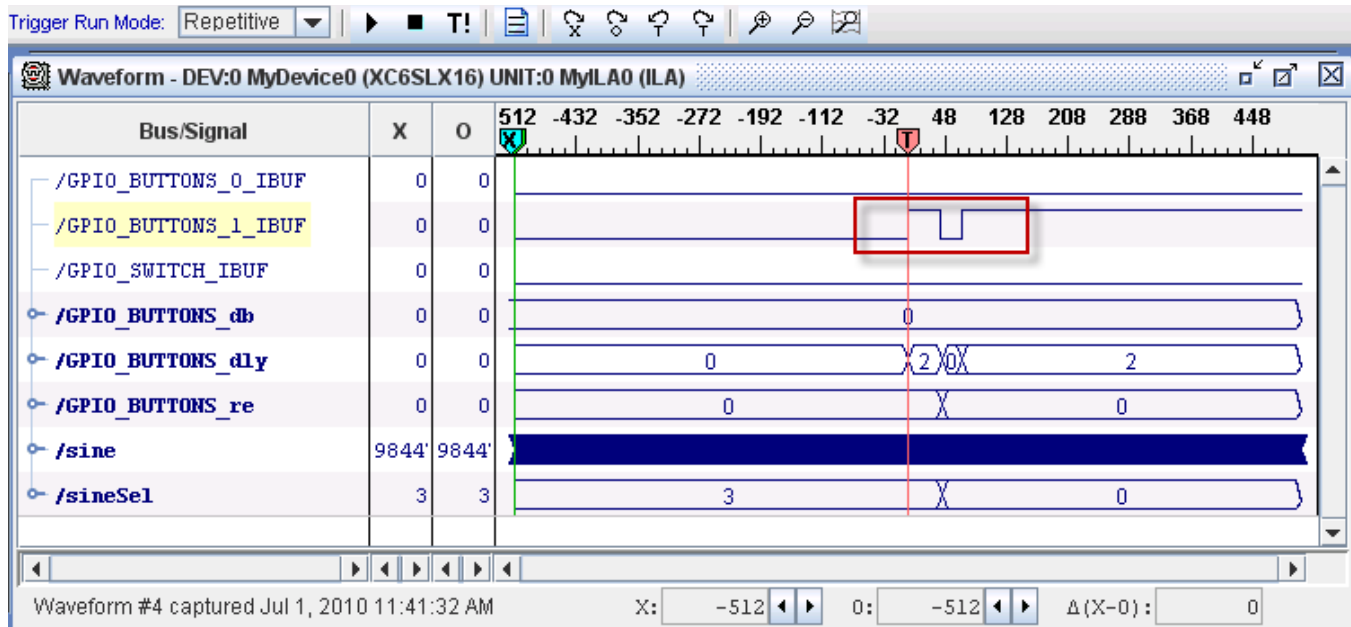

Figure 10: GPIO Buttons_1_re Signal Glitch
7. On the board, press the *Sine Wave Sequencer* button until you see multiple transitions on the `GPIO_BUTTONS_1_IBUF` signal. This is a visualization of the glitch that is occurring on the input. An example of the glitch is shown in Figure 10.